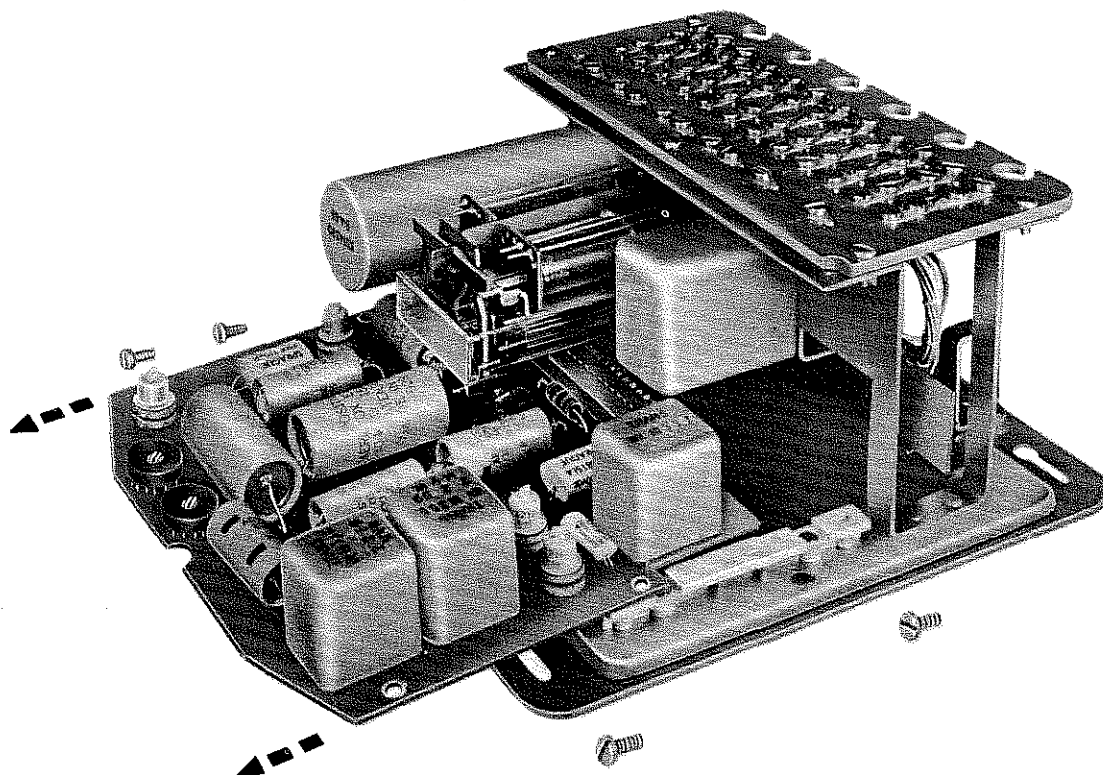

Fig. 13 — Wiring Board Assembly Removal
8.02 Wiring board assembly is removed from the 51AW control unit by removing the four mounting screws and pulling the board away from the jack connector (see Fig 13).